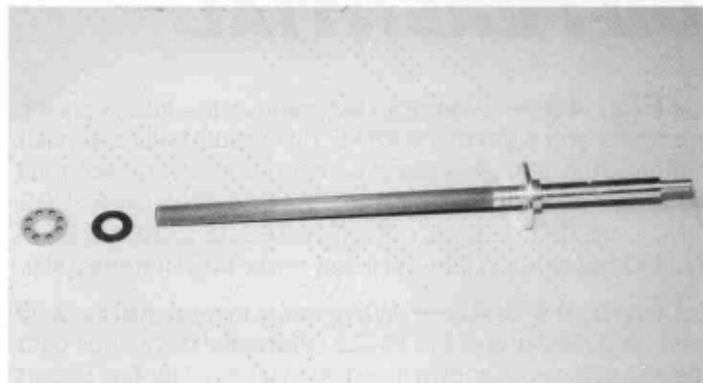

Fig. 46
□ **Fig. 46**— On the left hand side of the axle, slide one of the smooth washers onto the axle first and then the other blue thrust bearing. Push them all the way over against the aluminum axle hub. Then slip the axle through the rear end ball bearings from the right hand bulkhead side.